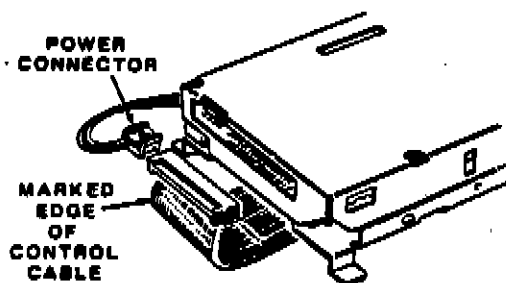

Figure 3-11. Disconnecting Floppy Drive A Power Cable
4. Lift drive A from the computer and use a small flat-blade screwdriver to remove the power connector, as shown in Figure 3-11. Set drive A aside.
- The marked wire of the control cable connector must be located as shown in Figure 3-11, and the connectors must be fully engaged.